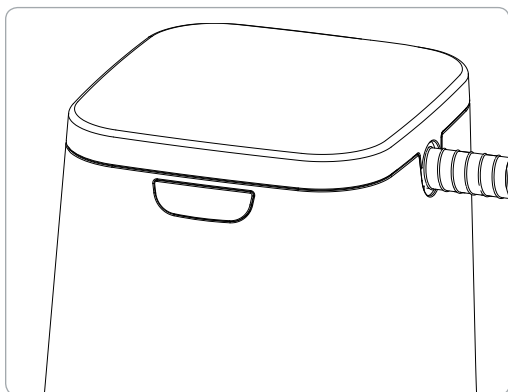

Figure 8. Closed lid with PAP mask inside
5. Close the lid with the PAP hose placed in the open slot (Figure 8). The SoClean will now automatically operate according to its preset time and duration.